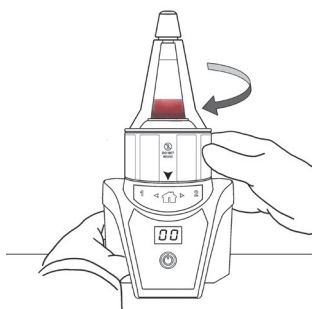

Figure 11
- Following the 15-second countdown, rotate Disposable Unit ▼ to Home Position 🏠 (Figure 11). Device will automatically deactivate.